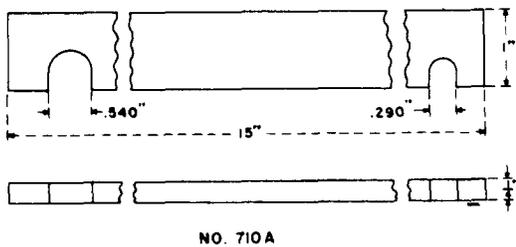

Fig. 11—710A Switchhook Extractor
**2.11 710A:** The 710A switchhook extractor tool (Fig. 11) is used in removing damaged switchhooks from corner-mounted coin collectors. The extractor consists of a hardened steel bar with a slot at each end.